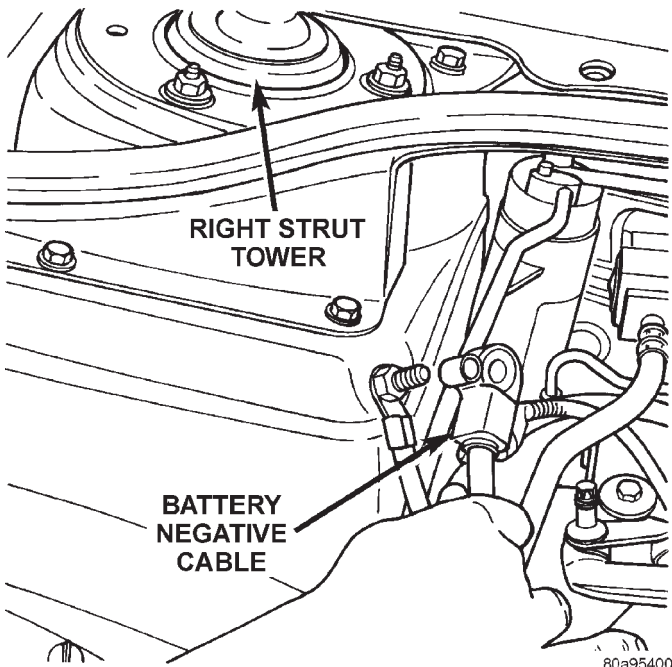

Fig. 26 Negative Cable Remote Terminal
- Disconnect negative cable at remote jumper terminal located at right strut tower (Fig. 26).